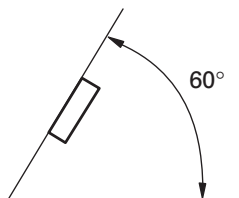

Fig. 4
- If installation angle exceeds 60° from horizontal, the unit might not give its optimum performance. (Fig. 4)